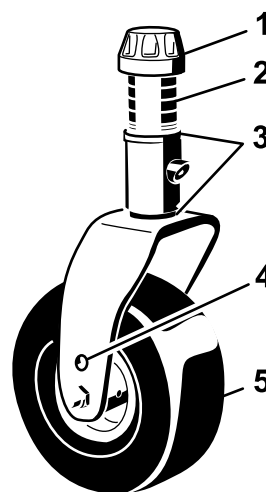

Figure 3
2. Position the castor wheel axles in the same holes in both castor forks. Refer to Figure 3 to determine the correct holes for the setting.
3. Remove the tensioning cap from the spindle shaft (Figure 3) and slide the spindle out of the castor arm. Put the 2 shims (1/8 inch) onto the spindle shaft as they were originally installed. These shims are required to achieve a level across the entire width of the cutting units. Slide